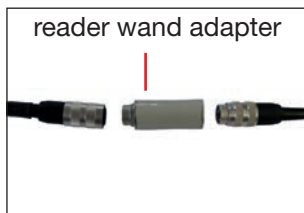

Fig. 5
- Unscrew the reader wand adapter from both connectors by turning counter-clockwise (Fig. 5).